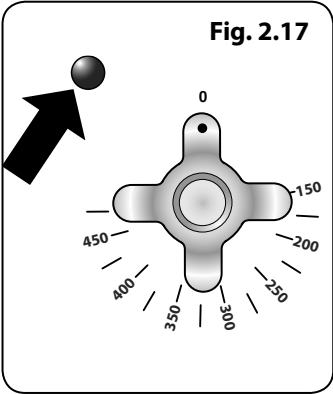

Fig. 2.17
- 2. The oven indicator light will glow until the oven has reached the temperature selected. It will then cycle on and off during cooking (**Fig. 2.17**).